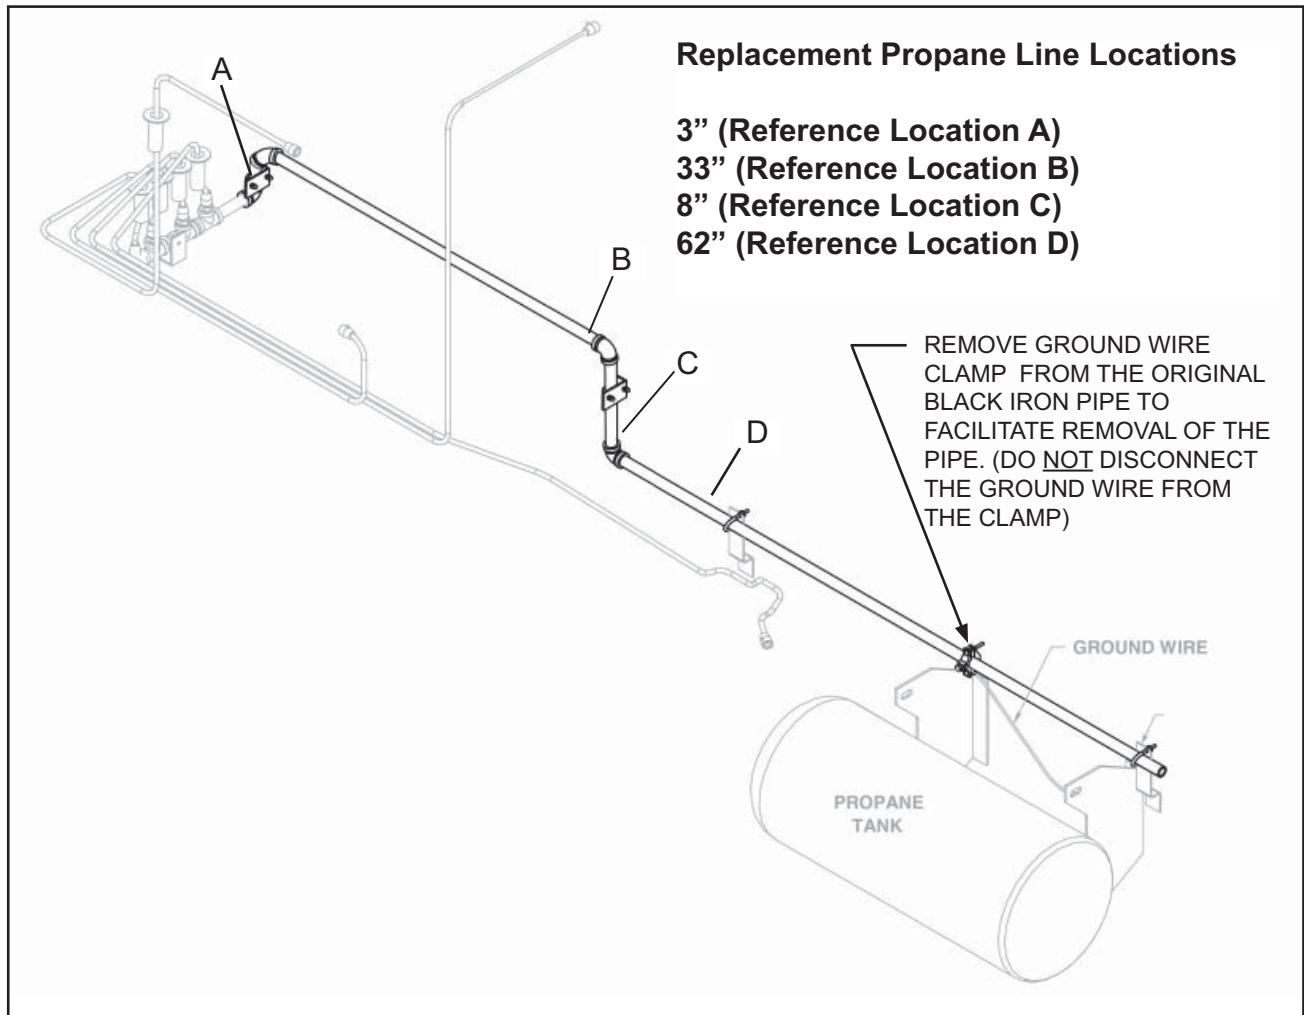

Figure 2
13. Loosen and remove the clamp for the ground wire from the black iron pipe, in order to facilitate removal of the pipe. **Do not disconnect the ground wire from the clamp.** Move the clamp with attached ground wire away from the work area until it is reinstalled. See Figure 2.
NOTE: The bold lines shown in Figure 2 (next page) illustrate the portions of propane plumbing that are to be removed and replaced in the following steps.
14. Remove and discard the U-bolt clamps securing the Propane plumbing between the propane manifold location and the propane tank. Support brackets may be reused to secure the new sections of propane plumbing. See Figure 2.
15. Remove and discard the two sections of black iron propane pipe and the two black iron elbows that were originally routed between the propane manifold and the propane tank flexible hose. Refer to Figure 2.
Refer to Figure 2 to locate and install the new sections of propane plumbing.
NOTE: When the manifold is reinstalled in the next step, the pipe nipple will be vertical, and the elbow attached to its top end will face the front of the motor home, as shown in Figure 2, Reference Location A.
21. Attach the new 33" length of pipe to the elbow on the end of the 3" pipe nipple. (This length will span the area across the wheel well.) Tighten the connection until the elbow at the other end faces down. See Figure 2, Reference Location B.
22. Attach the new 8" section of pipe to the elbow connection for the 33" pipe installed in the previous step. Tighten until the elbow at the other end faces the front of the motor home. See Figure 2, Reference Location C.
23. Attach the new 62" section of pipe to the elbow connection for the 8" section of pipe installed in the previous step. Tighten. See Figure 2, Reference Location D.
26. Reinstall the clamp with attached ground wire onto the new 62" section of black iron pipe. Verify the clamp is securely attached to the pipe. See Figure 2.